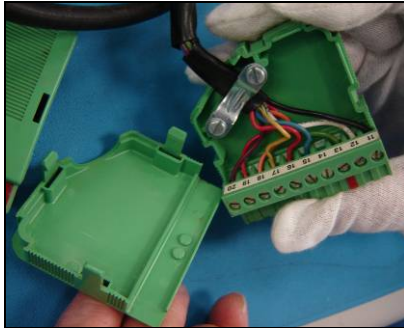

Figure 49: Terminal Block in Strain Relief Shell
- Fit each terminal block into the bottom half of a strain relief shell as shown in Figure 49.